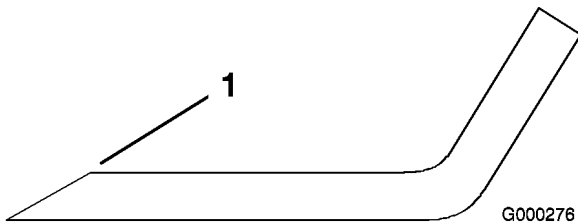

Figure 83
1. Use a file to sharpen the cutting edge at both ends of the blade (Figure 83). Maintain the original angle. The blade retains its balance if the same amount of material is removed from both cutting edges.